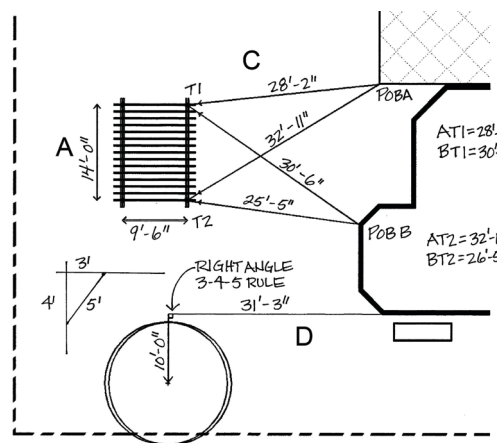

FIGURE 6. Triangulation measurements for arbor (Credit: Gail Hansen)
Figure 6 shows another use of the triangulation method (C). In this situation, two points are located at the posts
of a trellis (T1 and T2). Each point is measured from two different corners of the house (POB A and POB B). Figure 6 also shows simple point-to-point measurements (A) between the corner posts of the trellis and a simple grid or right angle measurement (D) to locate the tree. In the right angle method, a tape is pulled as an extension of the side of the house and a second tape is pulled from the center of the tree. Where the two tapes cross, the 3-4-5 rule from basic geometry, $A^2 + B^2 = C^2$, is used to make sure the tapes form a right angle (90°). This means the square of the hypotenuse (long side) of a right triangle is equal to the sum of the square of both legs (Pythagorean Theorem). Start by crossing the tape from the tree over the tape from the house at a right angle. Estimate the angle by sight. Measure 4 ft from the corner of the tree tape and mark, then measure 3 ft from the corner of the house tape and mark. Measure the distance between these marks with a third tape. If the distance is 5 ft, it is a right triangle. If not, adjust the tapes until you have a 5 ft hypotenuse (long side of a right triangle) and 3 and 4 ft legs on the triangle. For longer distances, use a larger number combination where all three numbers are multiples of 3-4-5, such as 15-20-25 ($3 \times 5 = 15$, $4 \times 5 = 20$, $5 \times 5 = 25$).